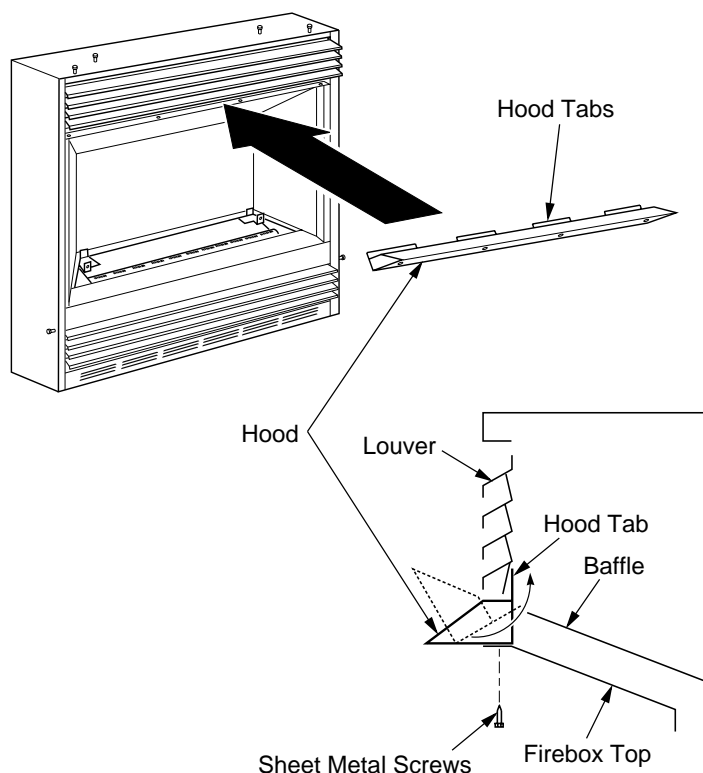

Figure 4 - Assembling Hood
5. Rotate hood as shown in Figure 4. Make sure hood tabs point toward fireplace.
6. Insert hood tabs between baffle and louvers (see Figure 4).
7. Gently rotate hood to upright position. Make sure hood tabs are behind louvers and hood is resting on firebox top (see Figure 4).
9. Insert screws as shown in Figure 4. Tighten screws firmly.